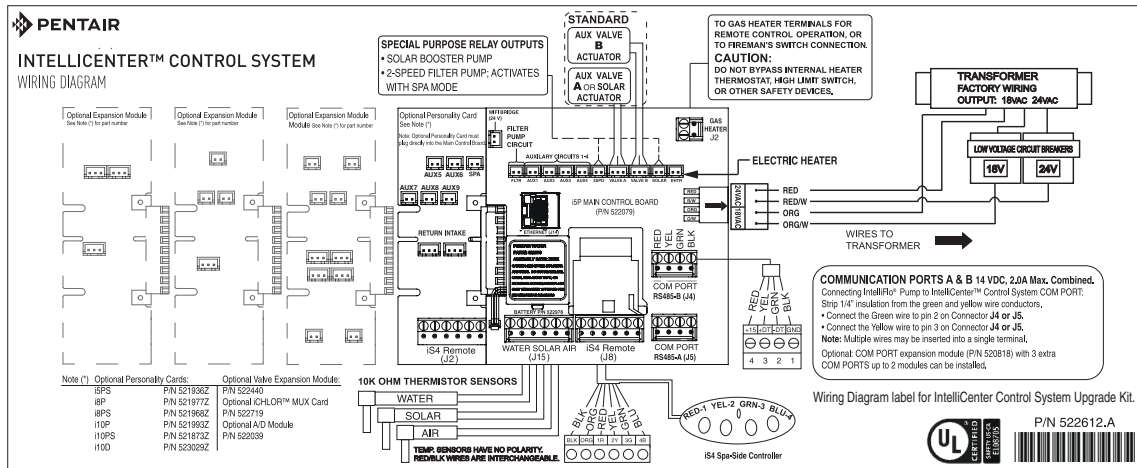

Figure 11. IntelliCenter™ Control System Circuit Board (with optional Expansion Boards shown)
4. If necessary connect the IntelliChlor® SCG wires to COM Port J4. See Figure 11, page 11 for wiring diagram.
## Connecting and configuring pool and spa equipment (Figure 11 on next page)